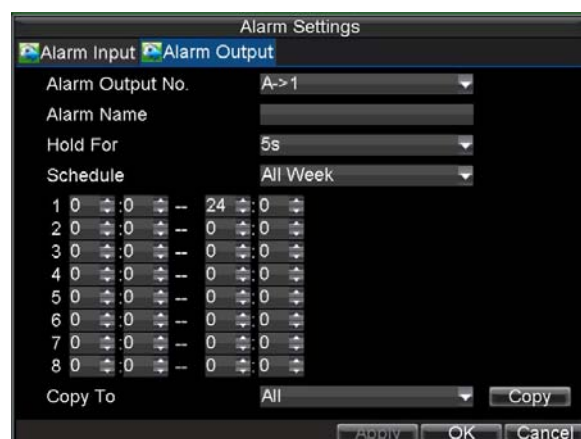

Figure 10. Alarm Output Settings
2. Select the output you would like to configure and click the Set button. This will bring up the settings page for the selected channel (Figure 10).